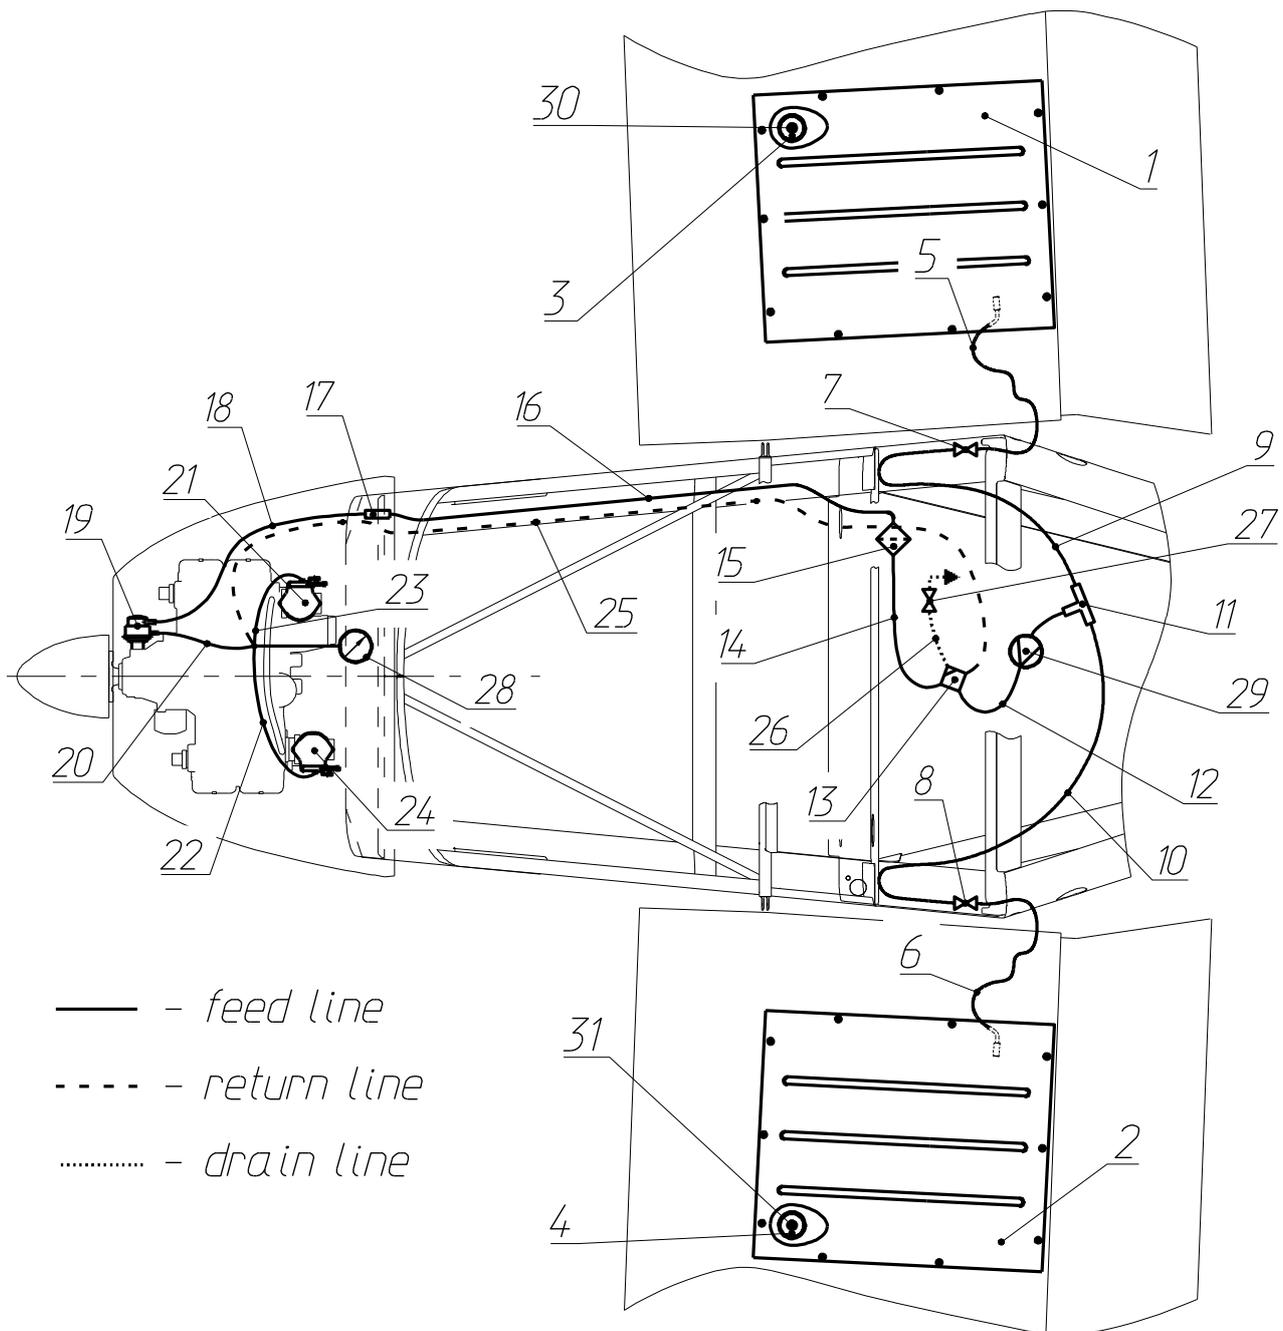

Fig. 2. Fuel system schematic
The fuel system (Fig. 2) includes two wing fuel tanks (1,2), feed fuel lines (5,6,9,10,12,14,16,18,20,22,23), return line (25), two shut-off valves (7,8), fuel sediment collector (13), fuel filter (15), fuel pump (19), drain line (26) and drain valve (27). The fuel tanks are located at the wing root between the spar and aft web. The fuel inlet 3(4) is located at the front outboard corner of the tank. The inlet cover has vent fitting 30(31) connecting the tank volume free of fuel to the atmosphere. The fuel shut-off valves (7,8) are located on the vertical beams of the frame No.3, on the left and right sides respectively. The shut-off valve is open when its handle is set vertically and closed when the handle is set horizontally. The left and right fuel tank is connected with the fuel lines to the left and right fuel shut-off valve respectively. Further two fuel lines are joined into a single one with the T-connector (11). Then fuel comes to the sediment collector (13). The sediment collector is located behind the main landing gear beam on the bottom rear panel of the fuselage. The top outlet of the fuel sediment collector is connected to the fuel filter (15) located on the right side behind the main landing gear beam and can be inspected visually. The bottom outlet of the fuel sediment collector is connected with a fuel line (25) to the drain valve (26), located behind the main landing gear beam on bottom rear panel of the fuselage. The drain valve allows draining fuel through the hole in the bottom rear panel of fuselage. The valve handle is accessible outside fuselage. After the fuel filter the fuel line (16) runs through the main landing gear beam, seat beam along the right-hand side of fuselage to the frame No.1 where it is connected with bulkhead fitting (17) to the fuel line of the engine (18) that is connected to the inlet of the fuel pump (19) located on the right-hand side of the engine gearbox. The pump outlet is connected with the fuel lines (20,22,23) to the carburetors (21, 24). The excessive fuel is returned through the line (24) to the sediment collector (13). The fuel system may optionally contain the fuel pressure sensor (28) and fuel flow transducer (29) for monitoring of its functionality.